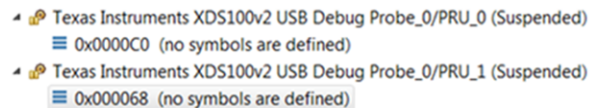

Figure 14. PRU_0 and PRU_1 Cores in CCS
1. Halt ARM core, right click on the PRU_0 or PRU_1 and select "Connect Target". Then, suspend and view Disassembly. Figure 14 shows PRU_0 and PRU_1 cores in CCS.